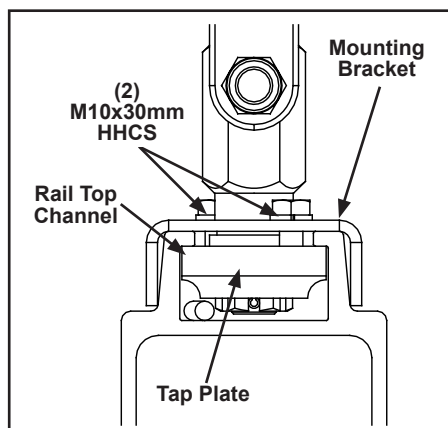

Figure 3-84
- Step 4. Use a lift assist to raise hangers and rail into position. See Figure 3-84.
- Step 5. Position end truck on bridge according to system layout and tighten two (2) M10 x 30 mm HHCS to clamp end trucks in place. Tighten bolts until lock washer is flat. Do not over tighten.